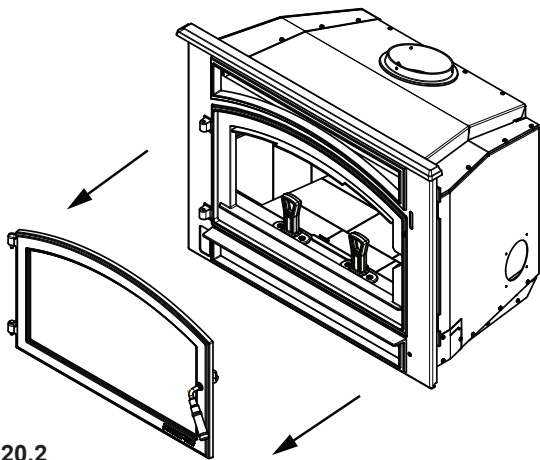

Figure 20.2
2. Remove door by unlatching handle from face and lifting up on door, set aside by laying it onto a protective surface (Figure 20.2).
- 8. Reinstall face to front of appliance (Figure 20.2 on page 20).
- 9. Reinstall the door to the face of the appliance (Figure 20.2 on page 20).